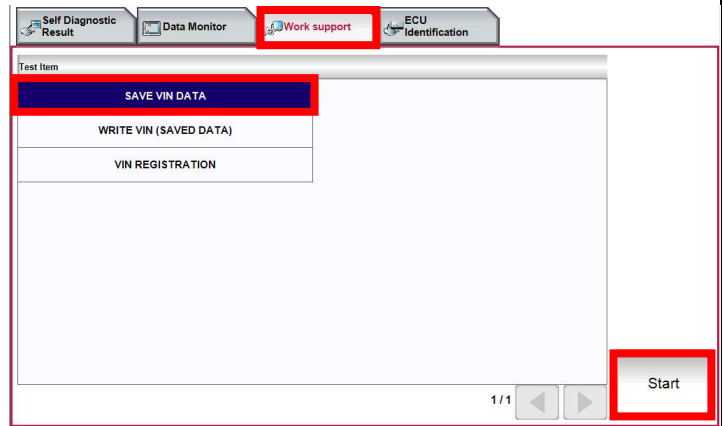

Figure 3
4. Select **Work support.** (Figure 3)
- Select **Save VIN DATA** (Figure 3)
- Select **Start** (Figure 3)